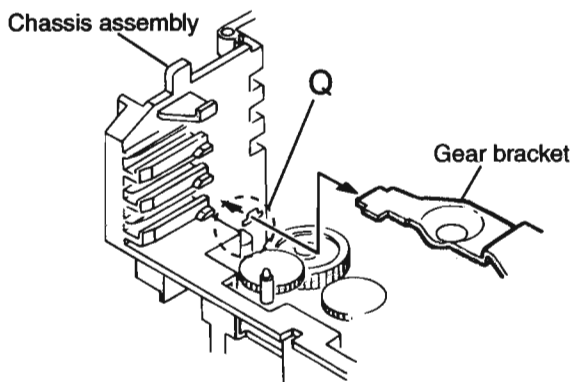

Fig.19
(See Fig.19).
4. Remove the belts respectively from the right and left actuator motor pulleys and pulley gears(See Fig. 19).